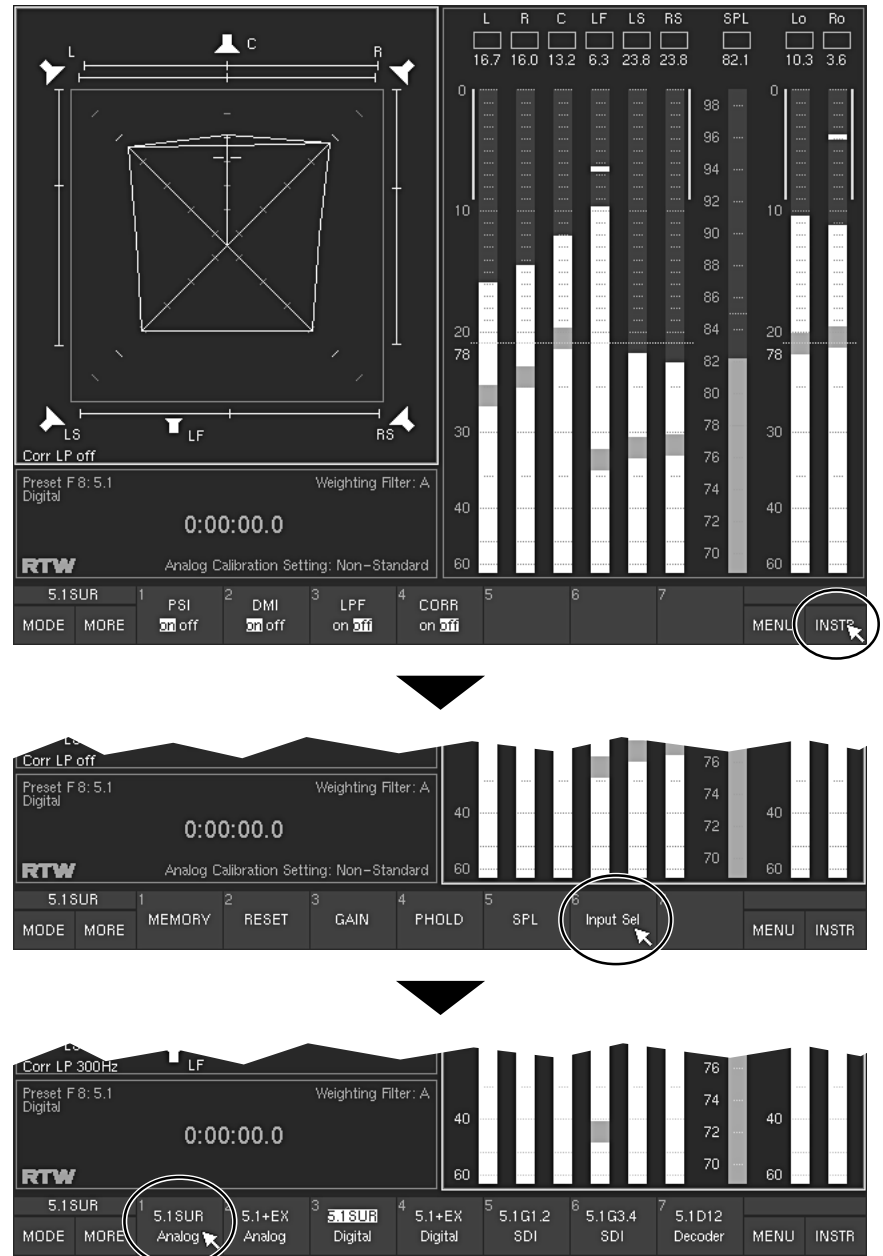

Fig. 4-3: Example for selecting input sources with Sub Presets
1. Press the **INSTR(UMENT)** key on the control panel of the unit or the front panel of the Remote Display 30010 or click the **INSTR** button in the Toolbar (see Fig. 4-3, upper part) until the Program Meter (windows 2) is highlighted. Now the Toolbar shows the functions of the Program Meter (see Fig. 4-3, part in the middle).
2. Press the **Input Sel** key (**6**). The Toolbar buttons numbered **1** to **7** now show the seven Sub Presets (see Fig. 4-3, lower part).